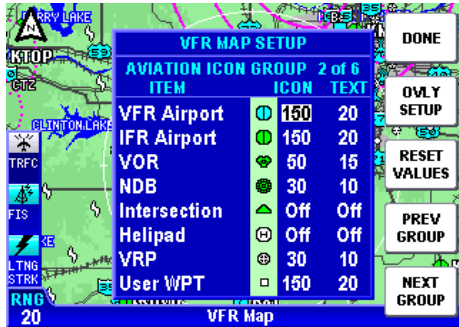

Figure 1-164
2. Press the **NEXT GROUP** Softkey to display the **AVIATION ICON GROUP** Page as in Figure 1-164.